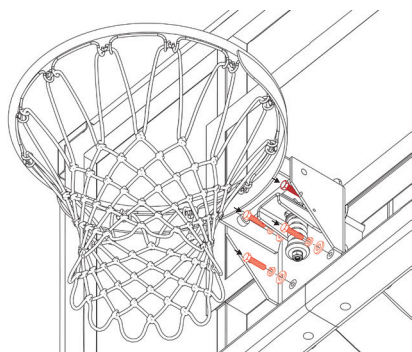

Figure 17
**STEP 11:** ◦ Align the Rim on the Backboard and secure the hardware into the tubes. See Figure 17. Hand tighten only.